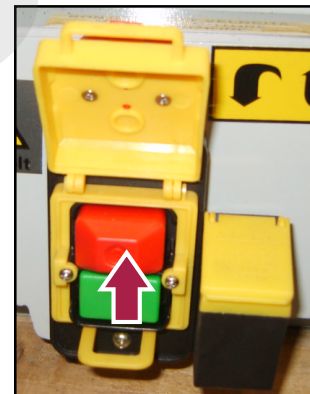

Figure 12 – Stop switch.
To stop the rotation of the electric motor, lift the red cap (emergency) and press the red stop button (see Figure 12). By pressing this button, power to the electric motor is switched off and the spindle stops rotating.
12. When finished, move the tool away from the workpiece, then turn off the machine by pressing the stop button (in red, see Figure 12).